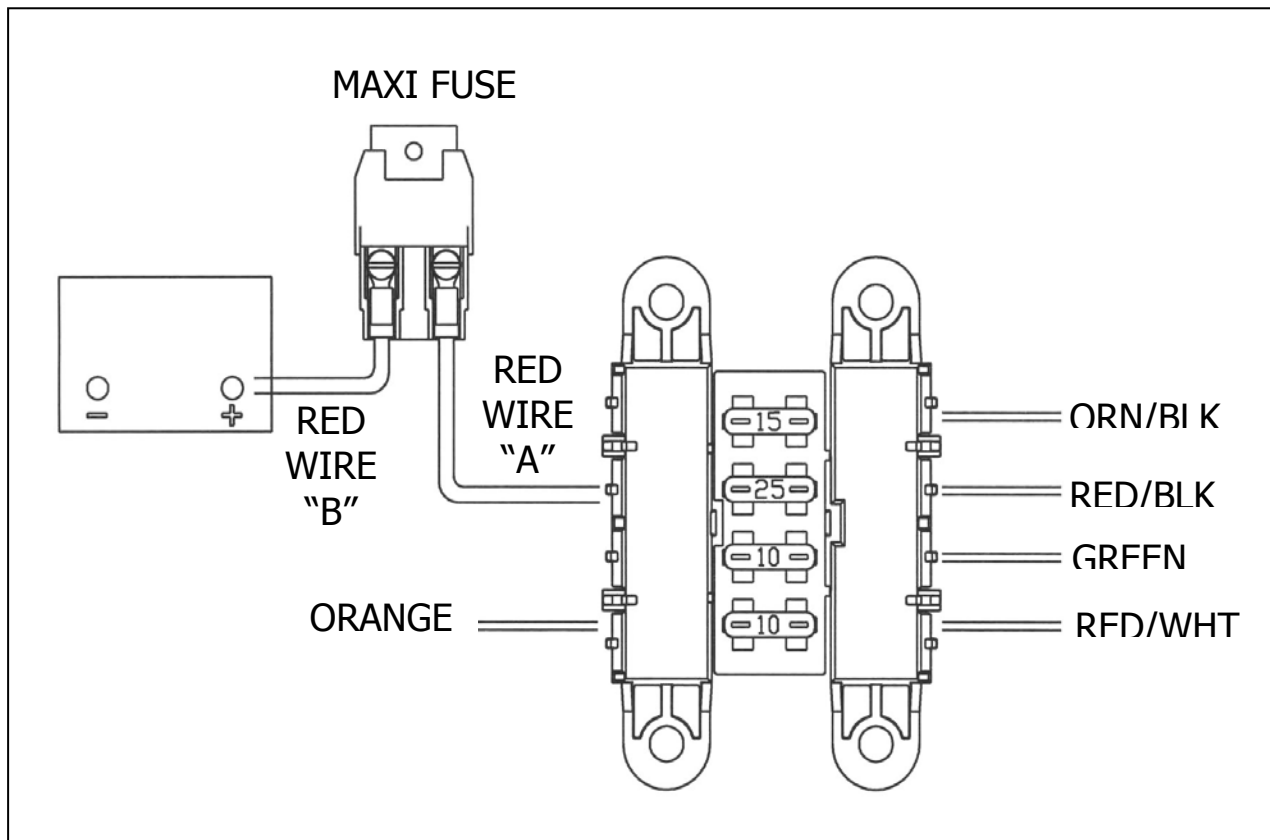

Figure 1-1 10301 Fuse Block Connections
- 1.2.2** Route the Large Red wire, from the fuse block, out to the maxi fuse holder, cut to length, strip the wire, crimp a ring terminal onto it and connect it to either side of the fuse holder. (**Figure 1-1, Red Wire "A"**)
- 1.2.3** Take the remaining piece of red wire that was cut off, strip, crimp a terminal to one end, connect it to the other terminal on the fuse holder, route it out to battery or starter solenoid, cut to length, strip, crimp on required terminal and connect to power source. (**Figure 1-1, Red Wire "B"**)